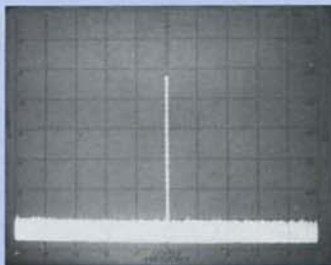

Figure 27.
3. Because of multiple and image responses which occur in any harmonic mixing analyzer, every signal observed on the CRT must be identified. Select one of the three observed signals. To identify the signal, tune FREQUENCY so that the inverted marker is under the signal. A null in signal amplitude will be seen. (Note the convenience in the choice of normal and rapid gears for coarse tuning.) Set SCAN WIDTH to 10 MHz/DIV and BANDWIDTH to 30 kHz. Change scan mode from FULL SCAN to PER DIVISION. Unknown signal is now in center screen as in Figure 27.